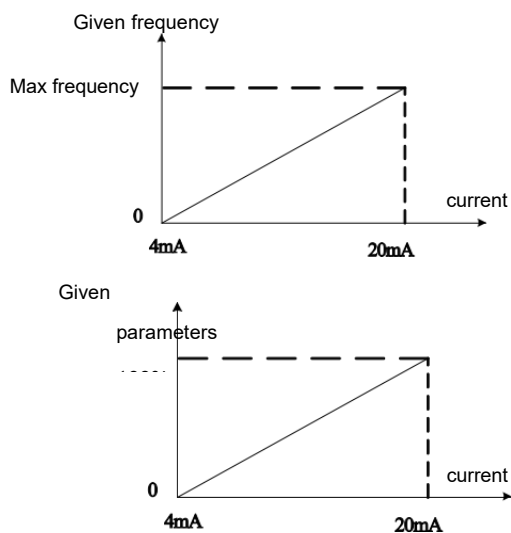

Figure 5.22 Simulating a given
- Analog given: The frequency of the inverter is set by simulating a given signal through the interface board. The input current signal (4~20mA) can be adjusted by the touch screen parameters "Min Given Current" and "Max Given Current". Under open-loop control, the analog given signal corresponds to 0Hz~the highest frequency, and under closed-loop control, the analog given signal corresponds to 0%~100%. The correspondence between a given value and frequency is shown in Figure 5.22.